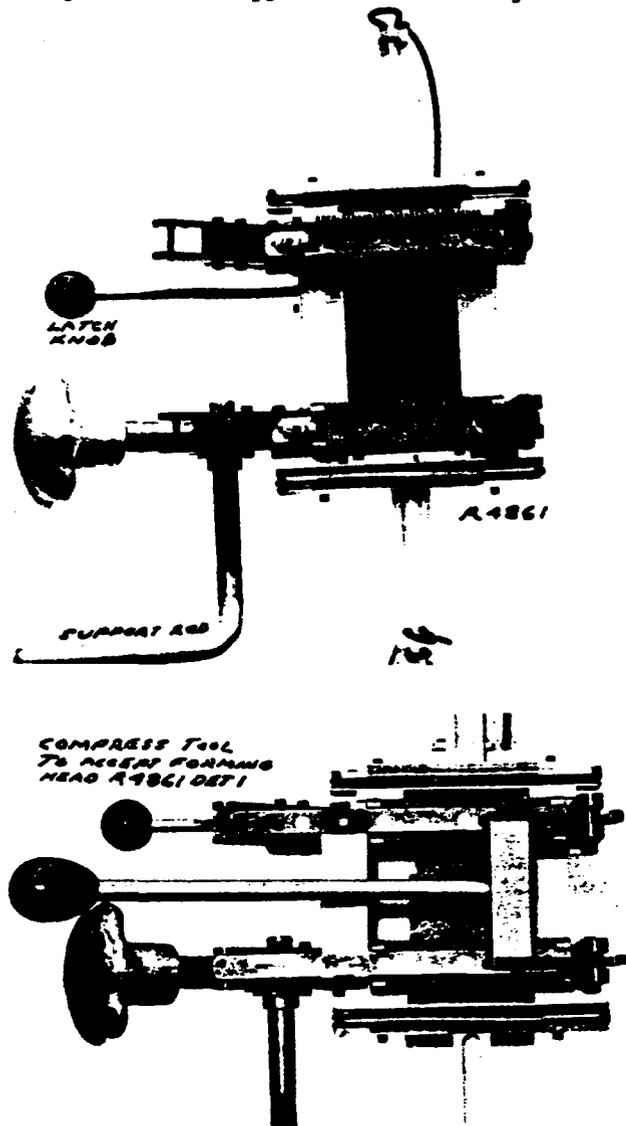

FIG. 7 R4861 TOOL AND FORMING HEAD (PAR. 3.242)
3.242 The R4861 tool is a manually operated, tandem double mandrel tool consisting of four wire fanning combs, two sets of mandrel retainers, two wire retaining springs, and a removable R4861 DET 1 forming head. The forming head is used to simultaneously press the wires into the mandrels. The tool is clamped to the support rod. See Fig. 7.